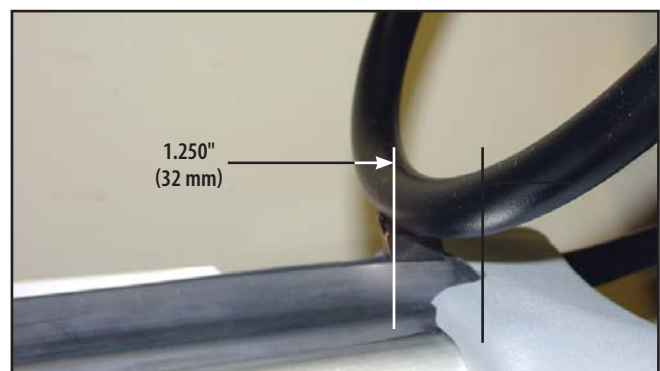

FIGURE 7.8
10. Press the Up Arrow button until the front of the Carriage Guide Bar is approximately 1.250" (32 mm) from the cut out in the Front Cover. **Refer to Figure 7.8.**